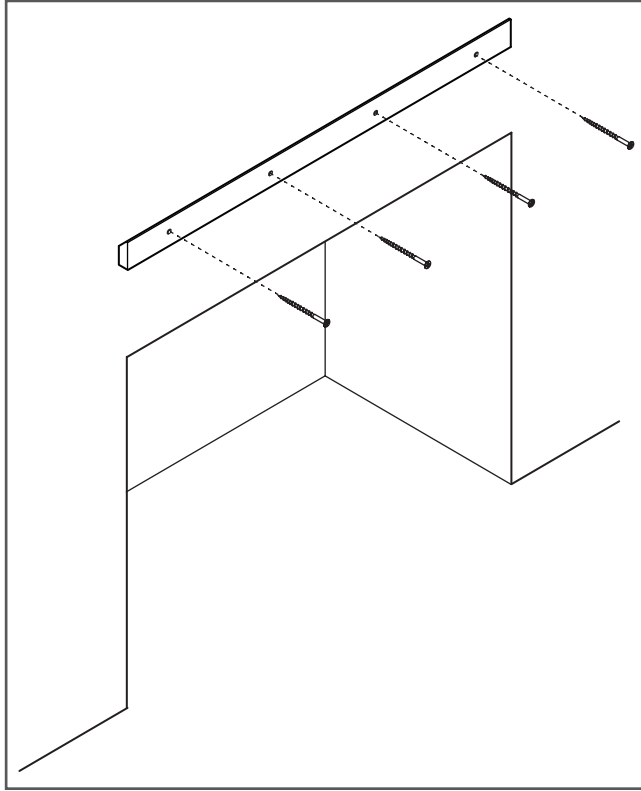

Figure 6
11. Attach the cleat to the wall using drywall anchor screws (C) (Figure 6).